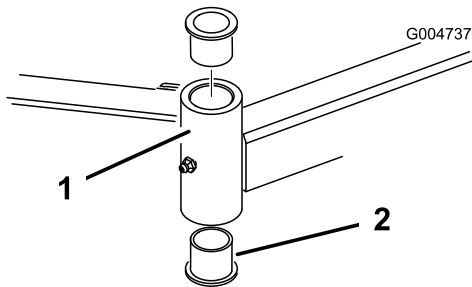

Figure 27
- Insert a pin punch into the top or bottom of the mounting tube and drive the bushing out of the tube (Figure 27). Also drive the other bushing out of the tube. Clean the inside of the tubes to remove dirt.